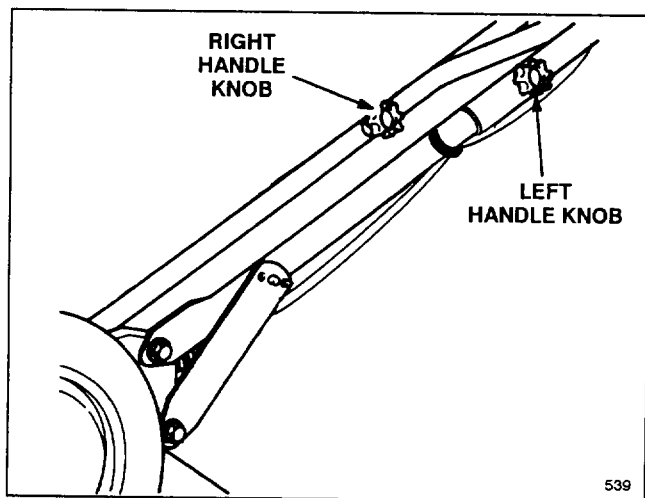
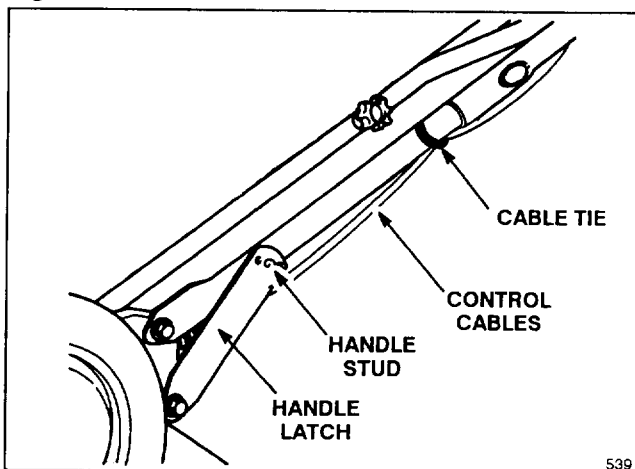

Figure 1
Figure 2
2. The left handle knob is shipped from the factory on the outside of the handle (Fig. 1). Remove the left knob and bolt. Reinstall knob and bolt on inside of handle (Fig. 2). Both handle knobs should be positioned on the inside of the handles.
**Note:** If handle height is not satisfactory, adjust by placing handle stud (Fig. 2) into a different hole. Tighten handle knobs.
5. Ensure control cables (Fig. 2) are to the rear and inside of handles. Secure cables to handle with cable tie as shown in Figure 2.
3. Align handle and tighten handle knobs. Move handle latches slightly outward so they will not be in the way when pivoting the handle backward into the operating position (Fig. 2).
4. Pivot handle backward. Move handle latches inward while snapping handle stud into center hole of handle latch (Fig. 2). If a handle latch does not fit tightly against the handle tube, remove latch from handle stud, bend the latch inward, and reattach to handle stud. Repeat as necessary to ensure a tight fit between latch and handle. Tighten handle knobs.